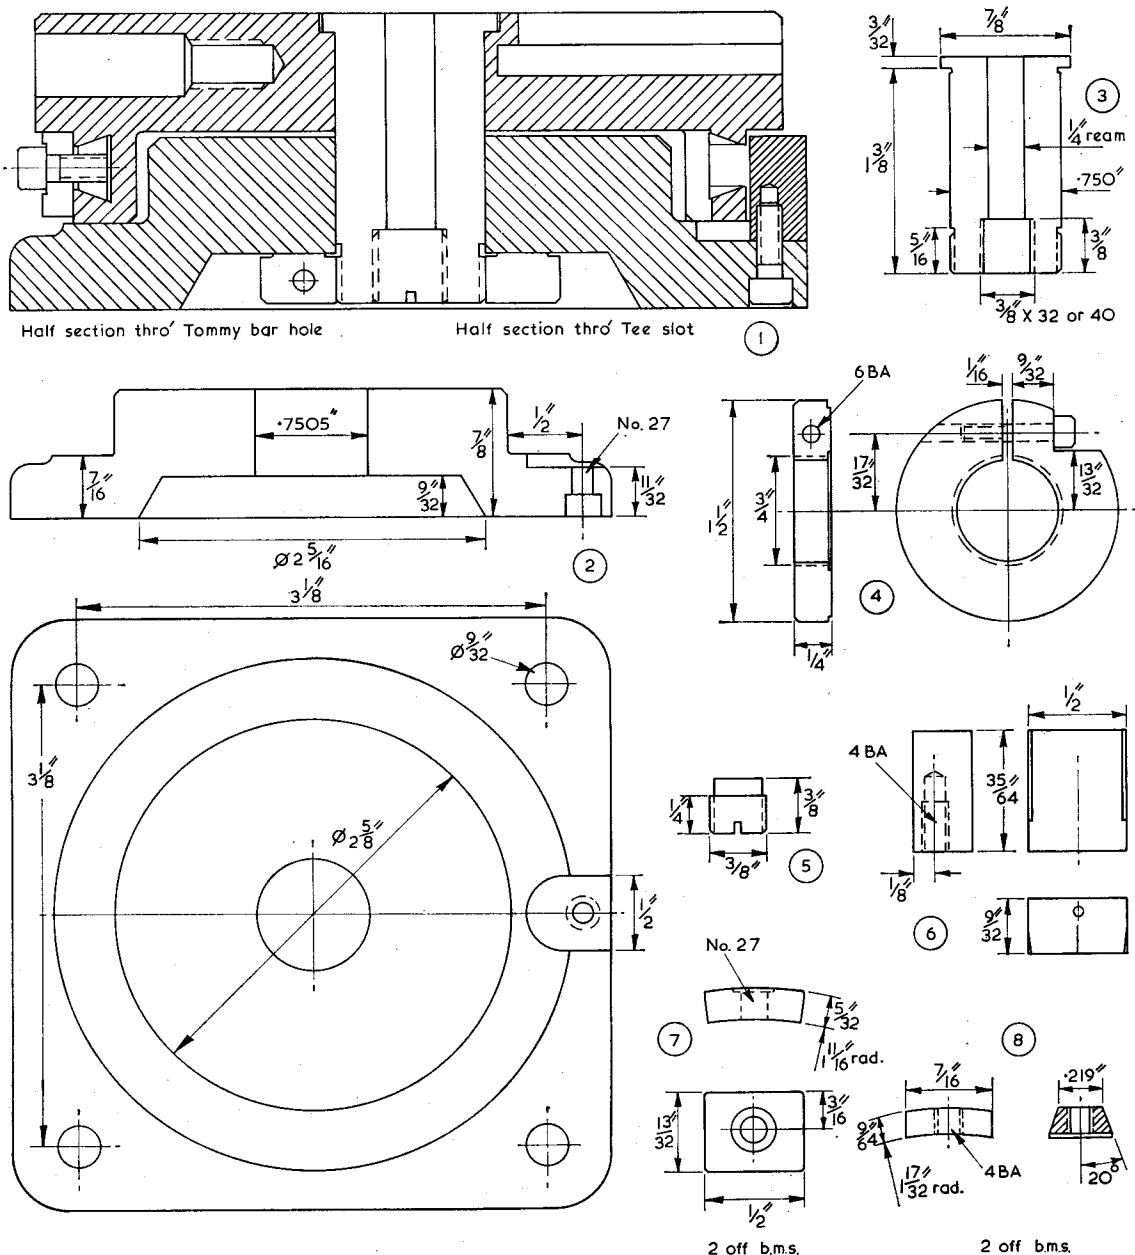

Fig. 1
All that is necessary to provide a base under the table is to lengthen the stem of the latter, see Fig. 1, item 1, and for operations which do not require the use of the table a longer stake-holder can be provided, item 2. These simple modifications will enable the component parts to be assembled either way, i.e. with column or the table over the base, the various set-ups being clearly shown in the photographs. To modify the table it was bolted to a faceplate with stem set true to clock; parted off; boss faced off and hole bored out to 11/16 in. dia. The new stem was made from a 3½ in. length of P.G.M.S. ¼ in. dia. (The use of P.G. steel saved turning the item from ⅞ in. stuff as the tolerance on ¼ in. B.M.S. is +.000, -.003, and mine was mostly -.002 which is too small). The piece was drilled through ⅜ in. and the end opened up to an accurate 7/16 in. to accommodate locating spigots. The end was turned down to 11/16 in. dia., a close sliding fit in the table to which it was secured by Loctite 35 after proper degreasing with carbon tetrachloride and a whiff of Primer T. The next day the end of the stem, which was made to protrude a little, was faced off flush with the table. It will be noticed that the stake-holder (item 2) is provided with a reducing adaptor (3) permitting the use of stakes having shanks either 5/16 in. or 7/16 in. dia.